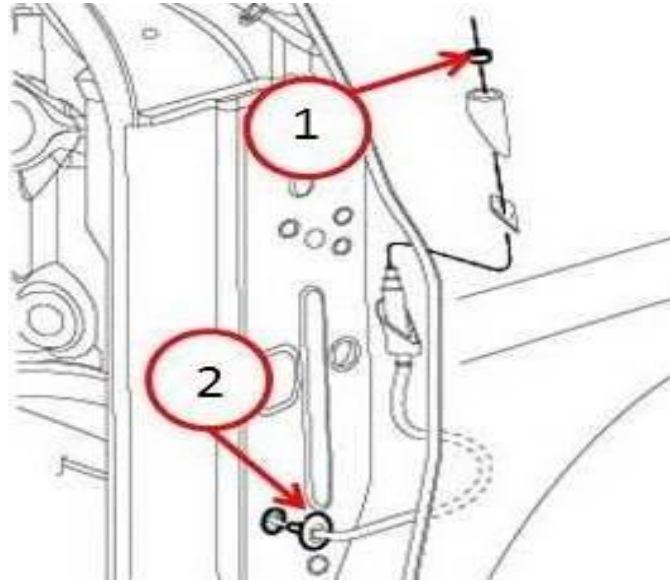

Fig. 6 Antenna Base and Cable Assembly
9. Remove the antenna cap nut using the Antenna Socket C-4816(Fig. 6).